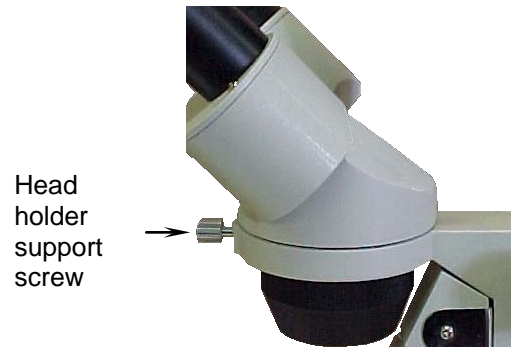

Fig. 1
1. Loosen the head holder support screw (Fig. 1) and turn the head 180°.